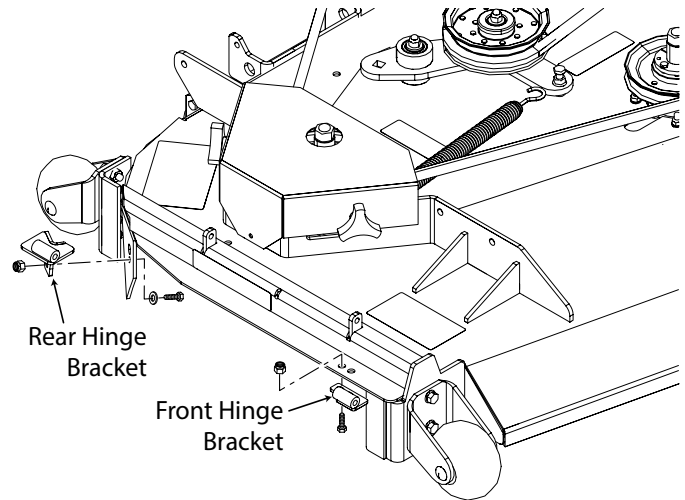

Figure 3-11. Hinge Weldment Installation
15. Install the block off plate weldment to the front and rear hinge brackets using two (2) 5/16-18 x 3-1/2" bolts and two (2) 5/16-18 elastic stop nuts. See Figure 3-11. Do not tighten the bolts completely. Secure the hardware so the block off plate weldment moves freely.